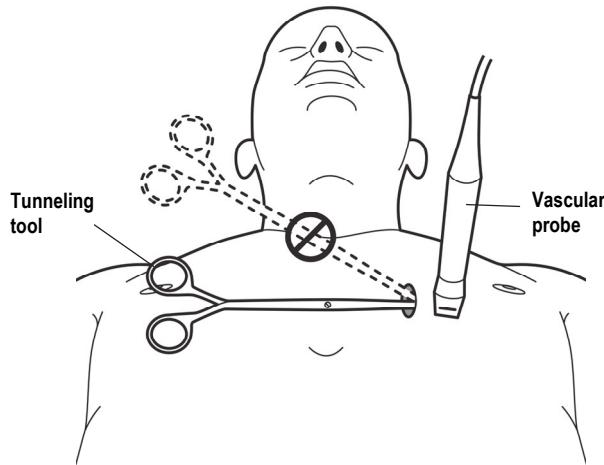

Figure 23: Advance Tunneling Tool using ultrasound assistance
10. Orient the tunneling tool horizontal to the chest/sternum and advance laterally along the anterior surface of the ICS to tunnel toward the preferred Battery pocket location. A vascular ultrasound probe can be used to track the tip of the tunneling tool within the muscle layers. Tunneling resistance should be minimal along the layer. If resistance is felt retract the tunneling tool completely and re-assess the insertion site prior to repeating this tunneling step to ensure that it is located over of the anterior surface of the ICS muscle. See Figure 23.